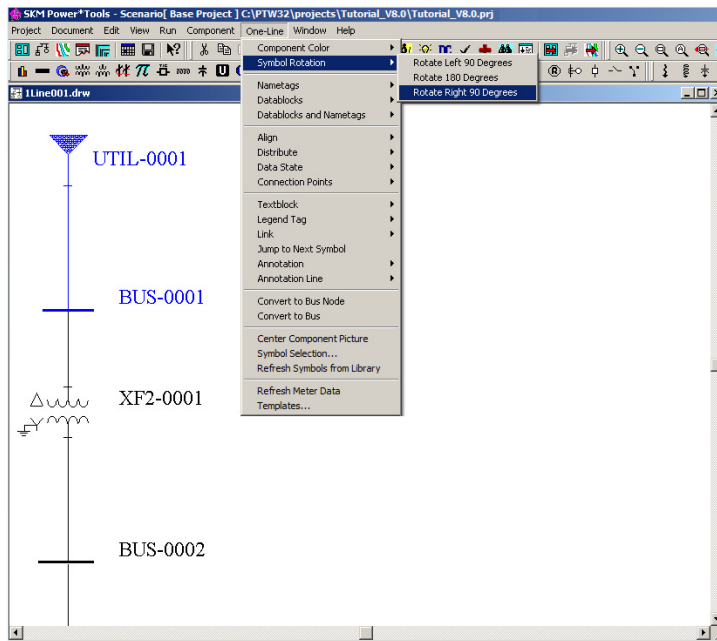

Fig. 13. Rotate the Utility Symbol and the Utility Bus 90 Degrees.
12. Use the **One-Line>Symbol Rotation>Rotate Right 90 Degrees** function as shown in Fig. 13.